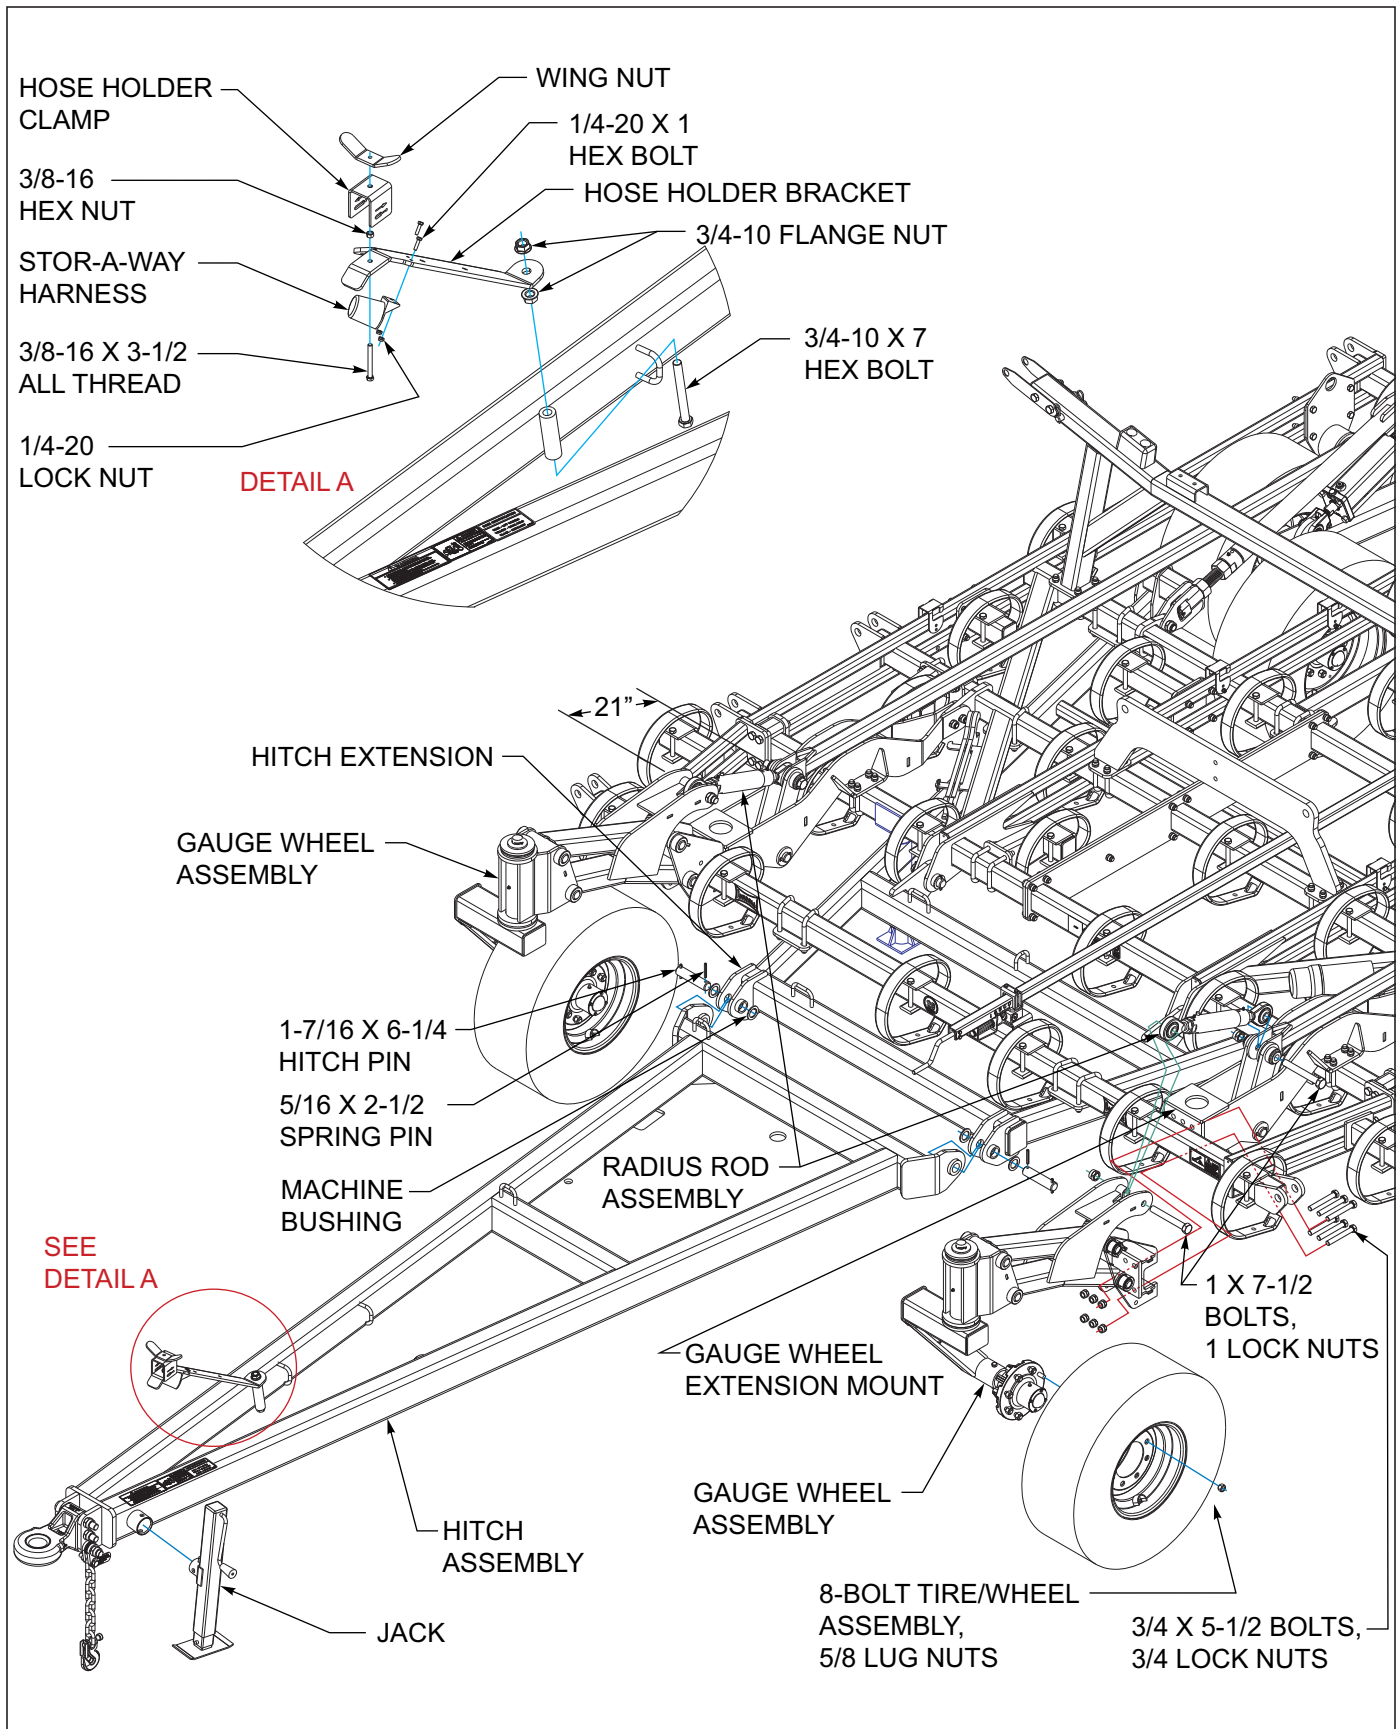

Figure 3-4: Hitch and Gauge Wheel Assembly
1. Connect hitch assembly to the front of the hitch extension using 1-7/16 X 6-1/4 hitch pins, machine bushings, and 5/16 x 2-1/2 slotted spring pins *See Figure 3-4.*
1. Remove the 1 x 7-1/2 bolt and 1 lock nut from the gauge wheel extension mount assembly *See Figure 3-4.*